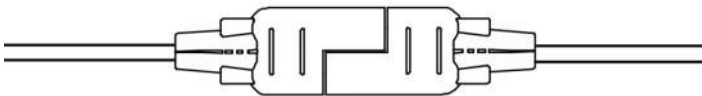

FIGURE 19
3. Locate the unit's emergency shutdown (ES) circuit inside the control box. If the unit has existing safety devices installed, reference sheet 9 for wiring instructions, otherwise, reference sheet 8.
4. Disconnect the micro sensor at the 2-way connector as shown in Figure 19 and 20.